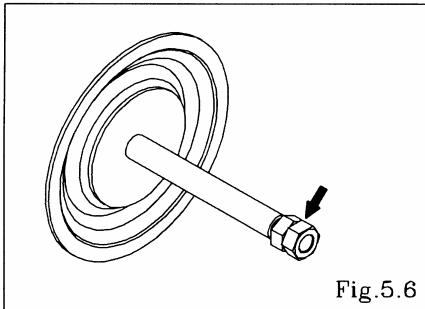

Fig.5.6
- Fix a double nut to one end of the center rod and take the diaphragm and center disk off the opposite end. [Fig.5.6]